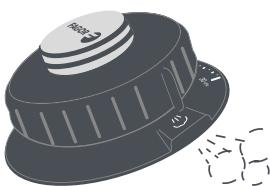

Fig. 15
(Modelo Dual Xpress) (Dual Xpress model) To use the automatic option, rotate the pressure regulator (15) clockwise to the steam release position ⇨ (Fig. 15).